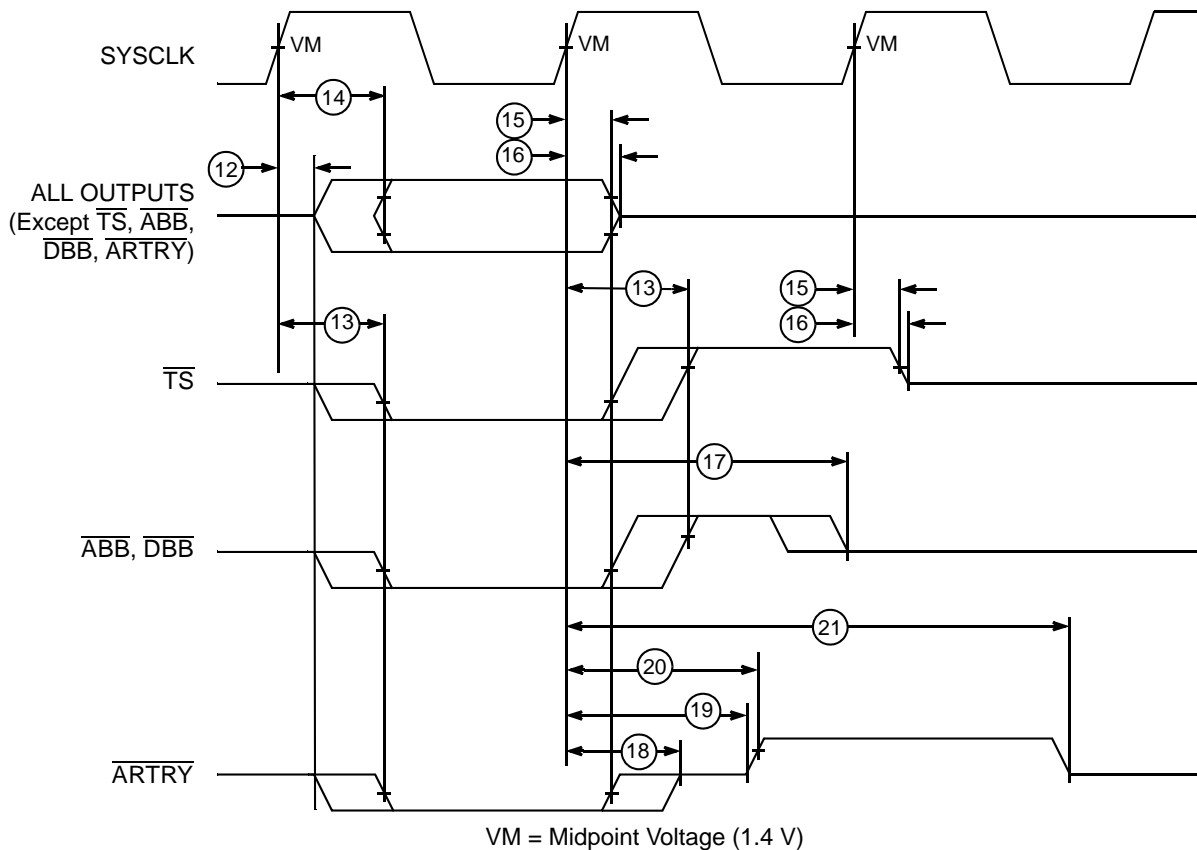

Figure 4. Output Timing Diagram
This table provides the output AC timing specifications for the PID7t-603e as defined in Figure 4.
1. All output specifications are measured from the 1.4 V of the rising edge of SYSCLK to the TTL level (0.8 V or 2.0 V) of the signal in question. Both input and output timings are measured at the pin (see Figure 4).